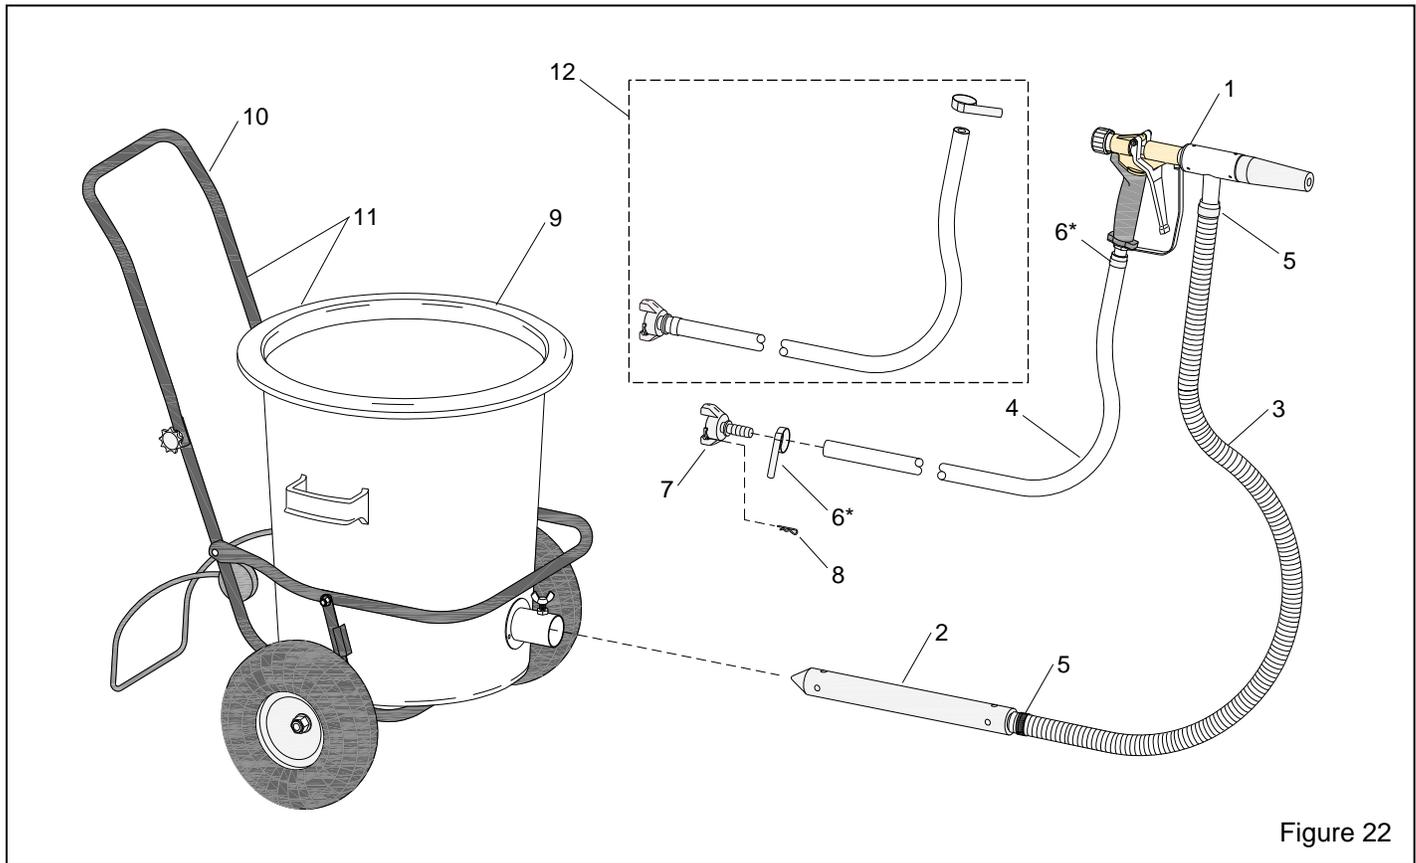

Figure 22
9.4 System Replacement Parts – Figure 22